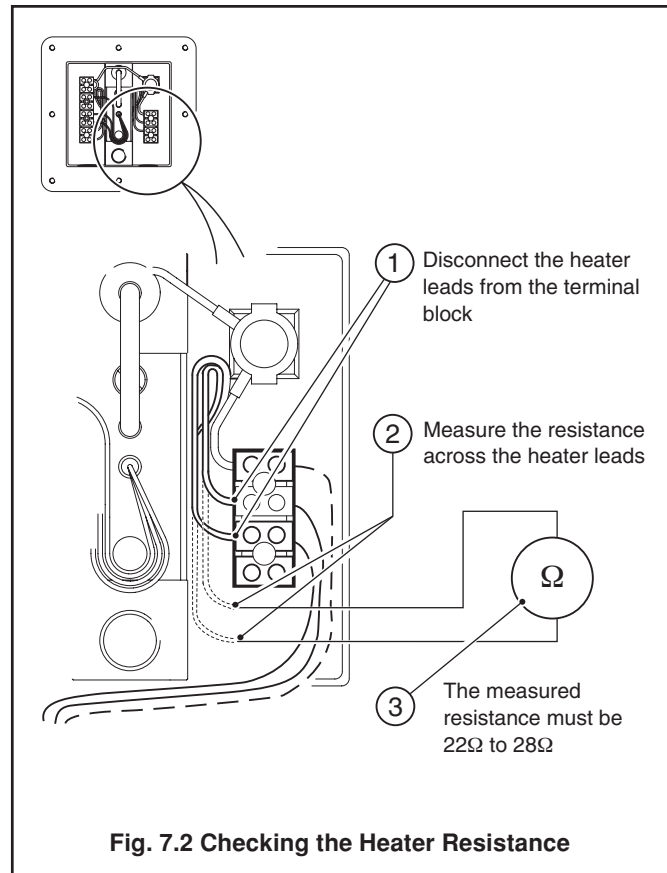

Fig. 7.2 Checking the Heater Resistance
7.1.2 Checking the Heater Resistance – Fig. 7.2
- b) Check the resistance of the probe heater as described in Fig. 7.2.